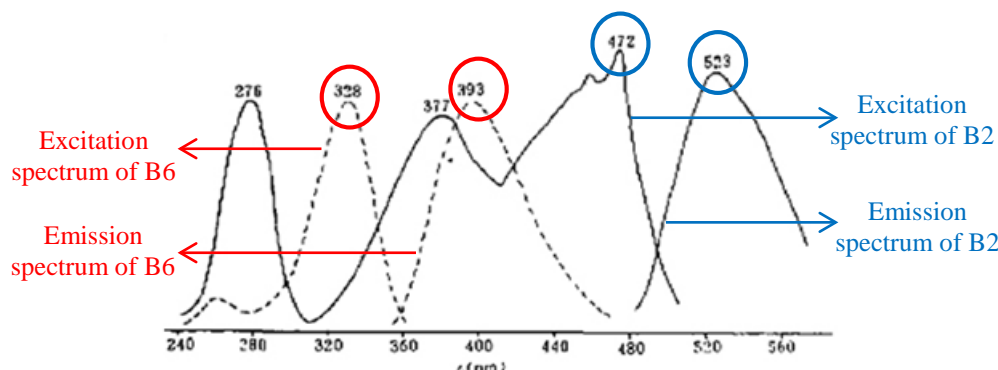

Fig. 3 Fluorescence spectrum of vitamin B2 and B6
- Synchronous: check the example below for the determination of delta. (fig.3)